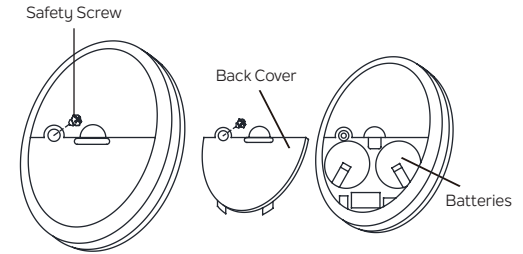

Fig. 25
## INSTALLING THE TRANSMITTER BATTERIES (Fig. 25)
**Step 1.** Remove the back cover of the transmitter and safety screw. (Fig. 25)